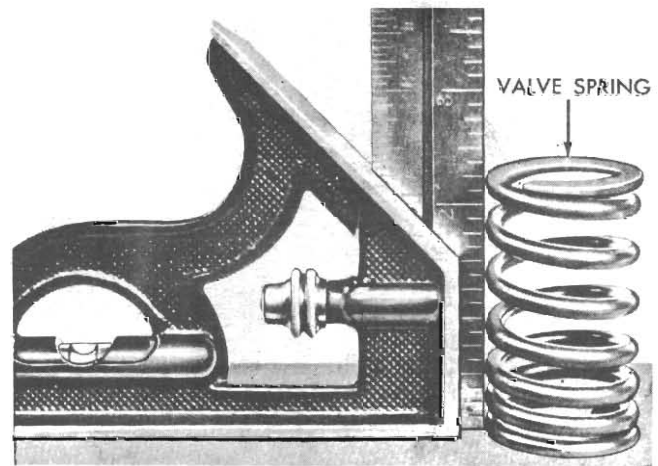

Fig. 16 - Checking valve spring squareness
(2) Inspect each valve spring for squareness with a steel square and surface plate, test springs from both ends as shown in Fig. 16.